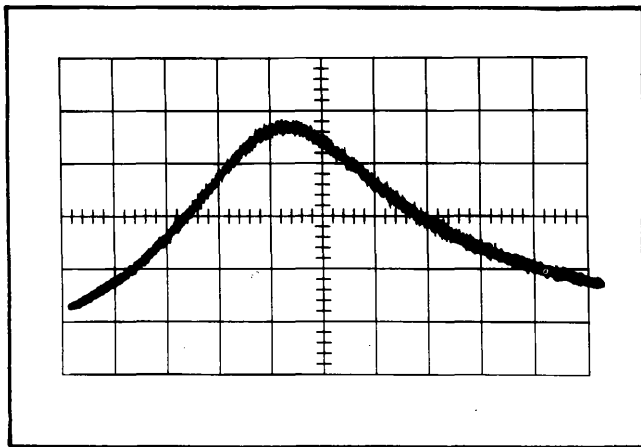

Fig. 2-1. Display of a signal with the DISPERSION-KC/CM switch in the SEARCH position.
5. Carefully adjust the R-F CENTER FREQ control to the point where the signal generator signal appears on the screen. Use the FINE R-F CENTER FREQ control to move the displayed spectra to the middle of the trace. Set the GAIN and/or R-F ATTEN switches for a vertical display of 3 to 6 divisions. The display at this point should resemble Fig. 2-1.